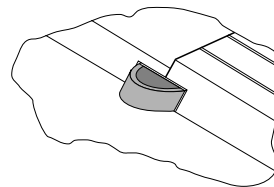

Figure 16
- Push the bolt past the pressure point in as far as the stop (Fig. 16).